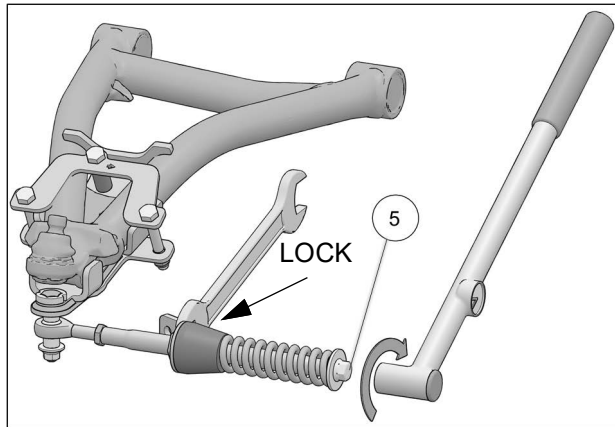

Fig. 22
12. Verify that spring assembly bolt (5) is tightened to the recommended torque specification: 75 Nm [55 lb•ft]. Make sure to lock in position, the large nut in front of the rubber cone damper. See Fig. 22